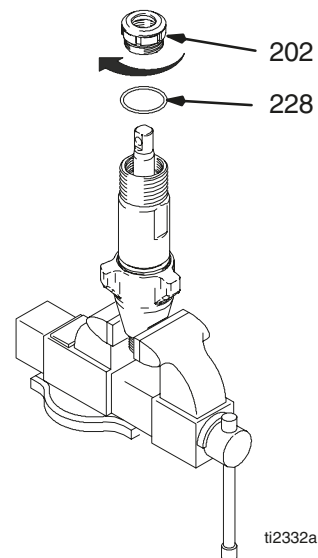

Fig. 20
Fig. 20. Torque seal and packing nut (202) down onto throat adjustment spacer (228) to 100 +/-10 in-lb (75 +/-5 in-lb for 246257) (140 +/-10 in-lb for 287814, 287815).